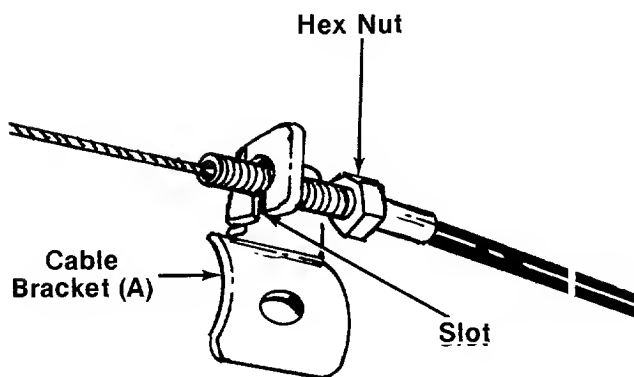

FIGURE 3.
4. The clutch cable is attached to the drive cover, and has a spring on the loose end. Remove one hex nut from the end of the cable. Hold the cable bracket (A) as shown in figure 3. Slip the wire through the slot on cable bracket. Push end of cable up through the hole in the bracket. See figure 3. Start hex nut back on the end of the clutch cable. Do not tighten at this time.